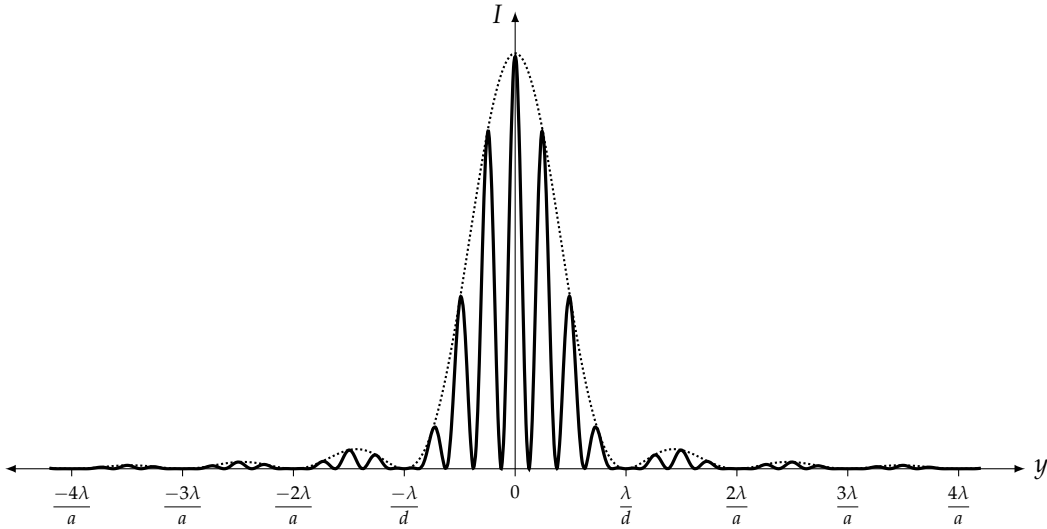
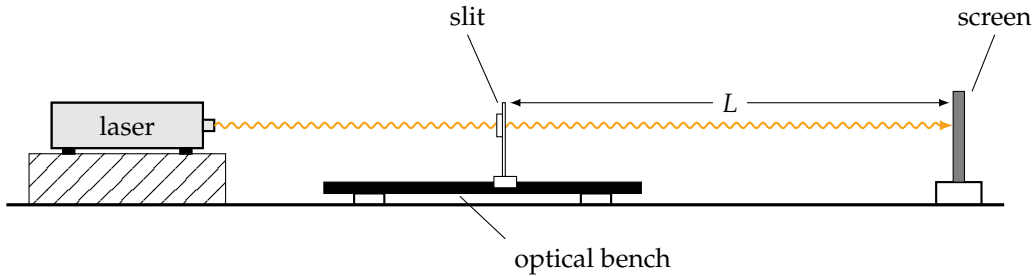

Figure 5: The observed intensity pattern in a two-slit experiment with slit width a and slit spacing $d = 4a$.
Figure 6: The optical bench setup for interference and diffraction measurements.
The actual interference pattern from the double slit will be a combination of the fringe pattern and the diffraction from each slit. The combined pattern is described by eq. (8) and plotted in Fig. 5.
For the optical measurements in this lab, you will be using a 632.8 nm He-Ne laser. You will mount the slit(s) and the screen on an optical bench to obtain a precise spacing L . The setup is shown in Fig. 6.
2. Set up the apparatus as shown in Fig. 6. Install the slide in the holder and place it in front of the laser. Aim the laser at the double slit portion of your slide (note the number of slits indicated on the grating) and send the back-reflection from the grating back into the laser cavity. This helps to ensure that the d you measured for the slit separation is the d used in the experiment.
3. Place the screen at the other end of the table from the laser, maximizing L . When the laser is turned on, a series of faint parallel vertical fringes will be seen on the screen. The spacing of the fringe maxima, y , depends on the screen-slit length L and the wavelength λ ; see eq. (4).
4. Sketch the fringes in Graph 1 in the Postlab exercises. Use shaded bars or lines to indicate the bright fringes. The brightest fringe (or maximum) on the screen is called the zero-order fringe, F_0 (see also Fig. 5). F_0 is where the path length from the two slits is equal ($\Delta\ell = 0$). The two adjacent bright fringes on each side are the first-order maxima, with a path length difference of one wavelength ($\Delta\ell = \lambda$). The next fringes are the second-order maxima, with a path length difference of two wavelengths ($\Delta\ell = 2\lambda$), and so on for higher orders.